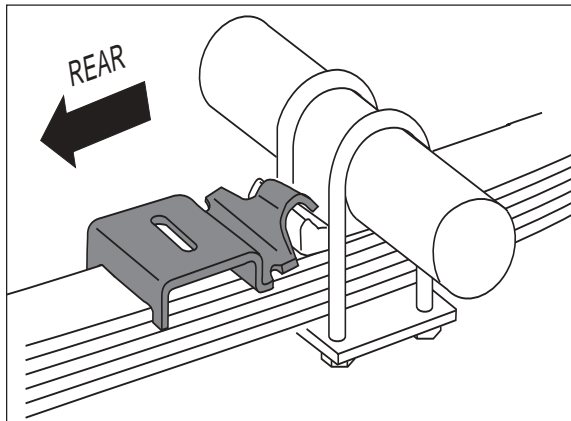

Figure 3
1. Set the assembly on the leaf spring behind the axle. Install the lower bracket as shown in Figures 1 and 3 over the edge of the upper spring retainer plate (Figure 3). Tighten nuts to 16 ft.lbs.
Stability translates into safety and should be the priority, meaning the driver may need to sacrifice a perfectly level and comfortable ride. Stability issues include roll control, bounce, dive during braking and sponginess (fig. 3). Tuning out these problems usually requires an increase in pressure.